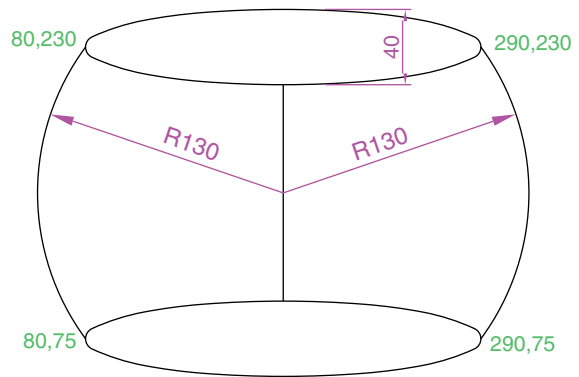

Fig. 3.34 Exercise 3
3. Using the **Ellipse** and **Arc** tools, construct the drawing in Fig. 3.34.